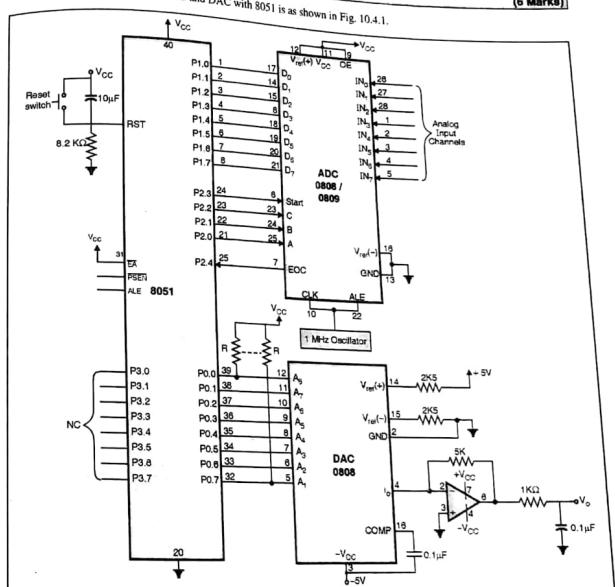

Fig. 10.4.1 : Interfacing ADC and DAC to 8051
- The interfacing diagram of ADC and DAC with 8051 is as shown in Fig. 10.4.1.
- Also as shown in Fig. 10.4.1 the pulse may also be taken from some external source.